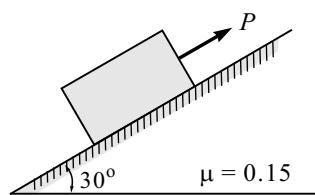

Fig. 8.E3
4. Block A of weight 2000 N is kept on an inclined plane at 35° as shown in Fig. 8.E4. It is connected to weight B by an inextensible string passing over smooth pulley. Determine the weight of B so that B just moves down. $\mu = 0.2$.